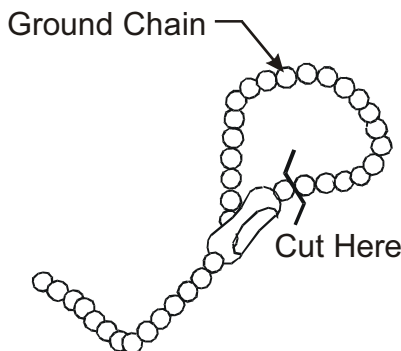

Figure 6.
27. Cut the existing ground chain loop, near the connector, as shown in Figure 6.